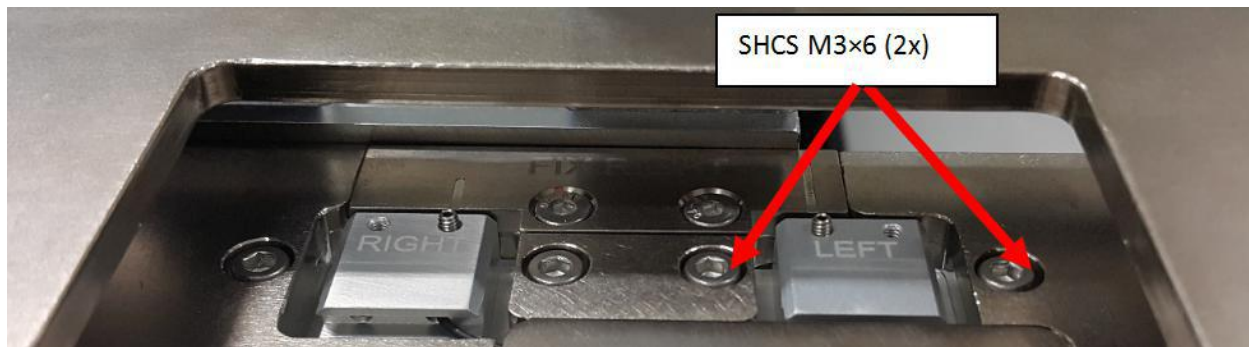

Figure 39 SHCS M3×6 (2x)
2. Push 4JAXY-034 PIP Sensor Mounting Plate to maximum direction (Blue arrow) and align with the line as shown in Figure 39
3. Tighten SHCS M3×6 (2x) as shown in Figure 39